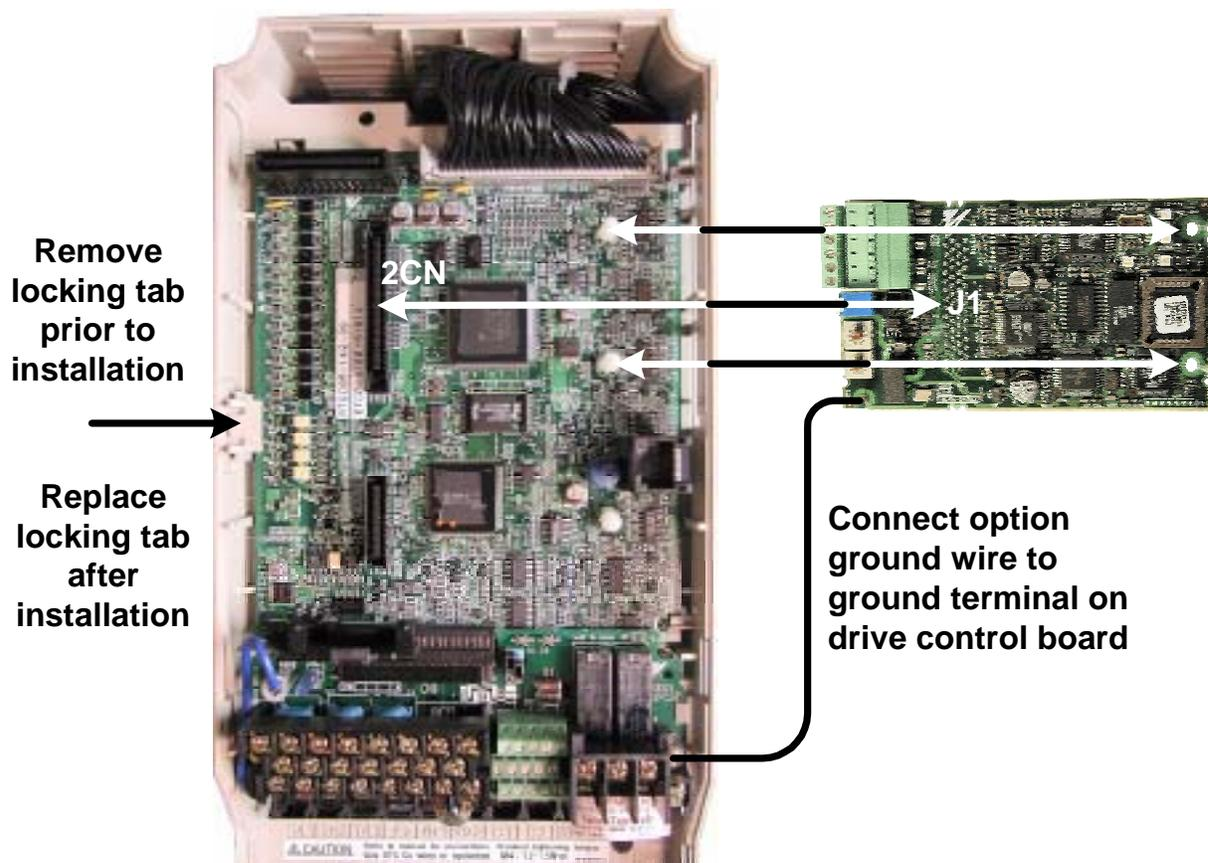

Figure 1.2 – Mount the PROFIBUS-DP Option
- 4.2:** Mount the *PROFIBUS-DP Option* onto the drive. Refer to **Figure 1.2 – Mount the PROFIBUS-DP Option**.